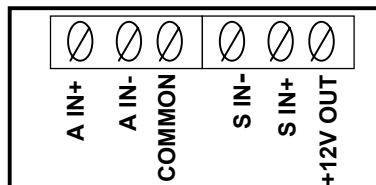

Figure 20
6. Insert the sensor's DC common wire into the **COMMON** terminal and secure the wire by turning the terminal's screw clockwise. *(Refer to the MX001 box or to Figure 20 for the order of the terminals for the sensor wires.)*